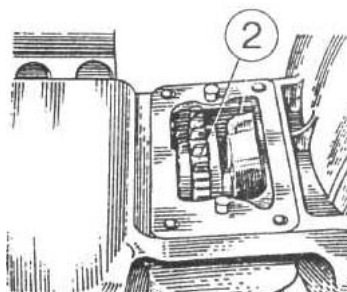

Figure 4.42
- d) pull out gear 2 (Figure 4.42) with two bearings and two rings through upper hatch of clutch body;